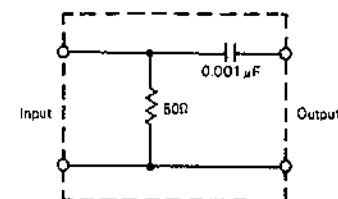

Fig. 73
- (1) Connect the AM signal generator to the contact point of R881 and L881 of the IF pack via the coupling circuit shown in Fig. 73.